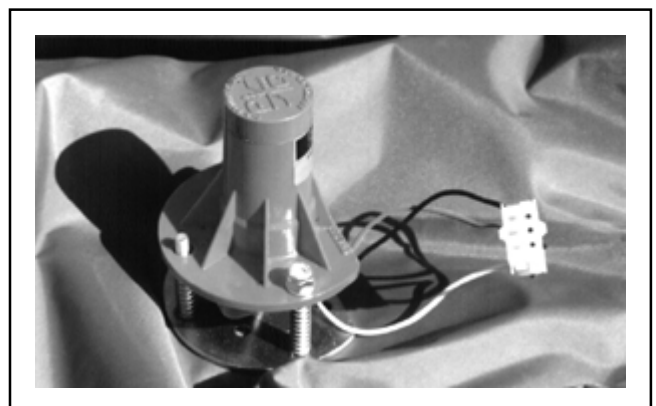

Figure 4-5: Tilt Sensor
4.7 Switch Adjustments (Figure 4-5, 4-6, 4-7 & 4-8)